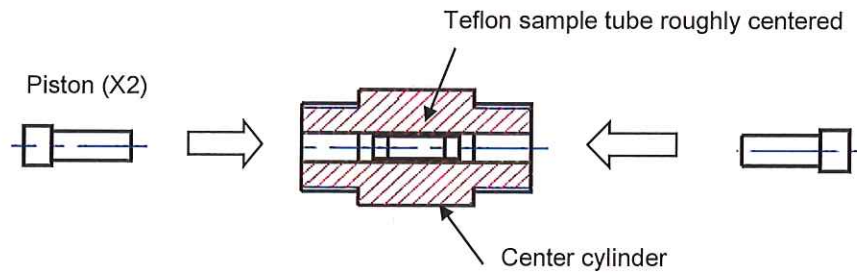

Fig 5 Teflon tube centered and setting the pistons
- 1) Using the appropriate diameter sample push rod, carefully push the teflon sample tube so it is roughly centered within the center cylinder (fig 5).
- 3) Insert the two pistons into the center cylinder (fig 5).